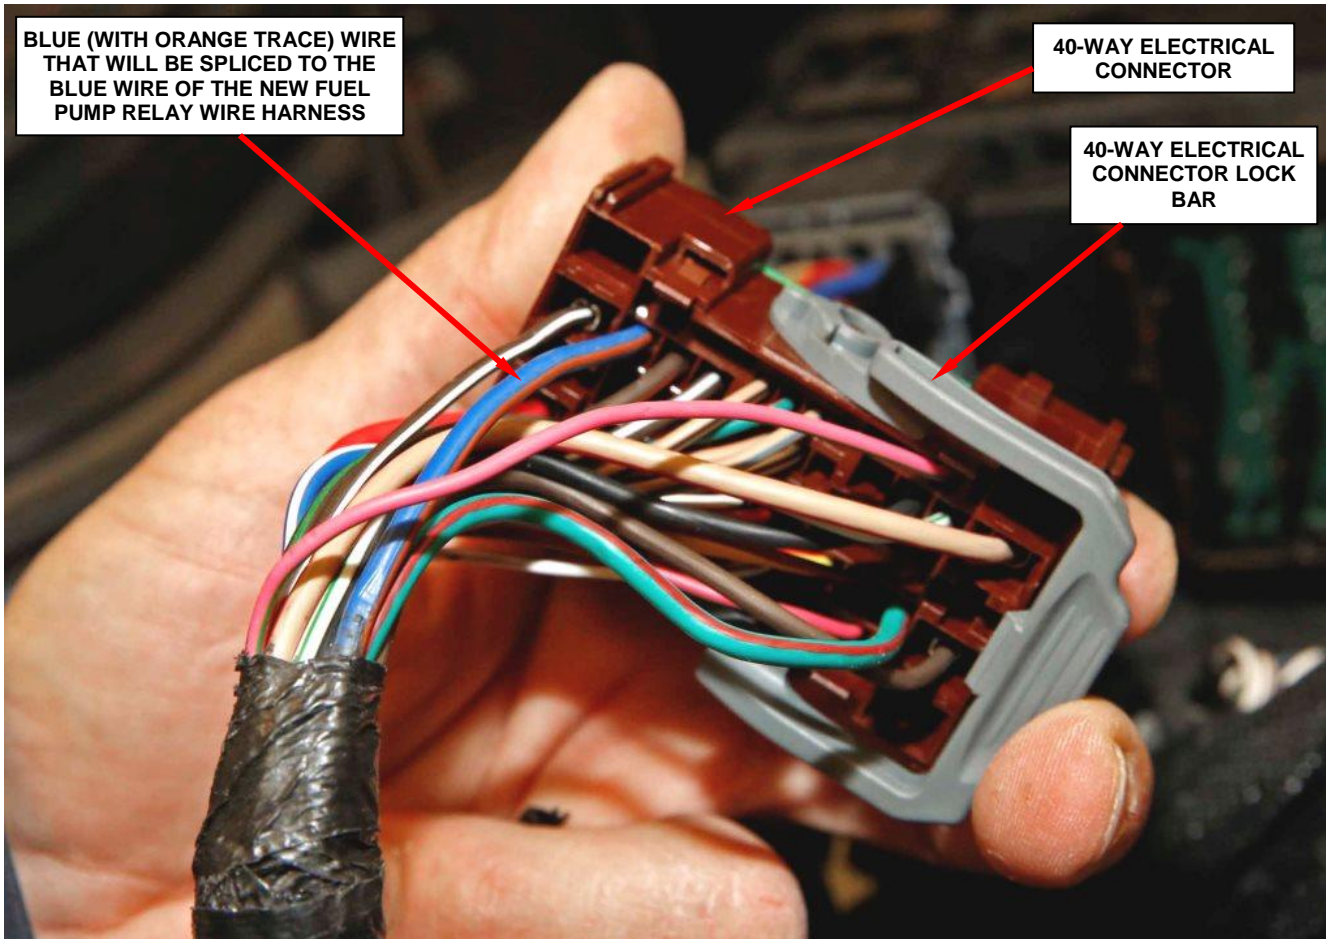

Figure 20 - Locate Blue with Orange Trace Wire in 40-Way Connector
15. Locate the blue (with an orange trace) wire in the 40-way electrical connector (Figure 20).